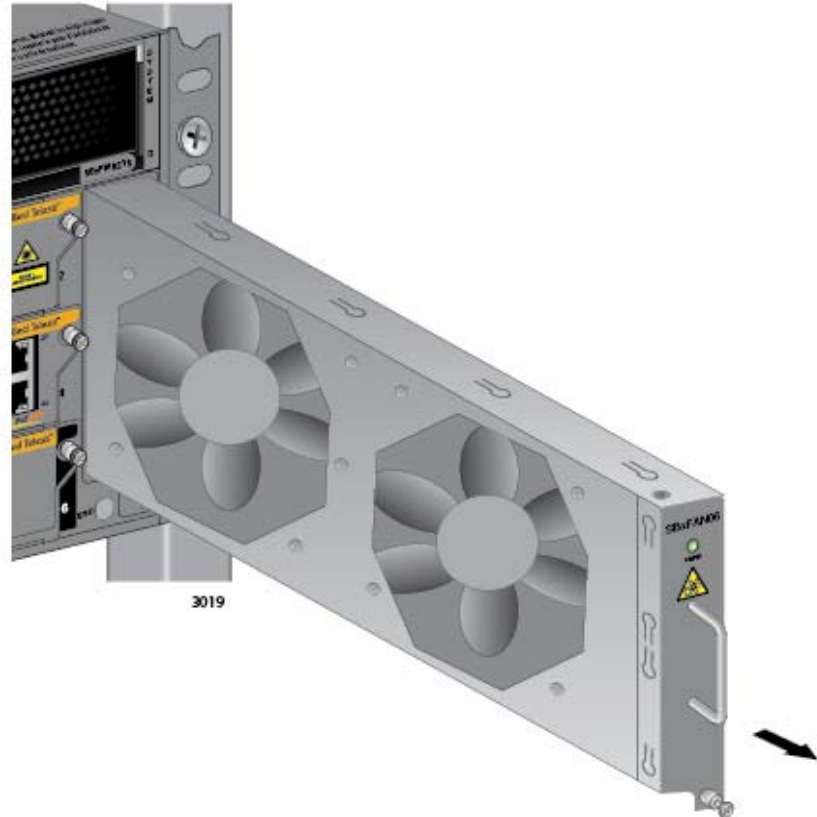

Figure 195. Removing the AT-SBxFAN06 Fan Module from the Chassis
6. After the fans have stopped, slide the module from the chassis. Refer to Figure 195 on page 300.